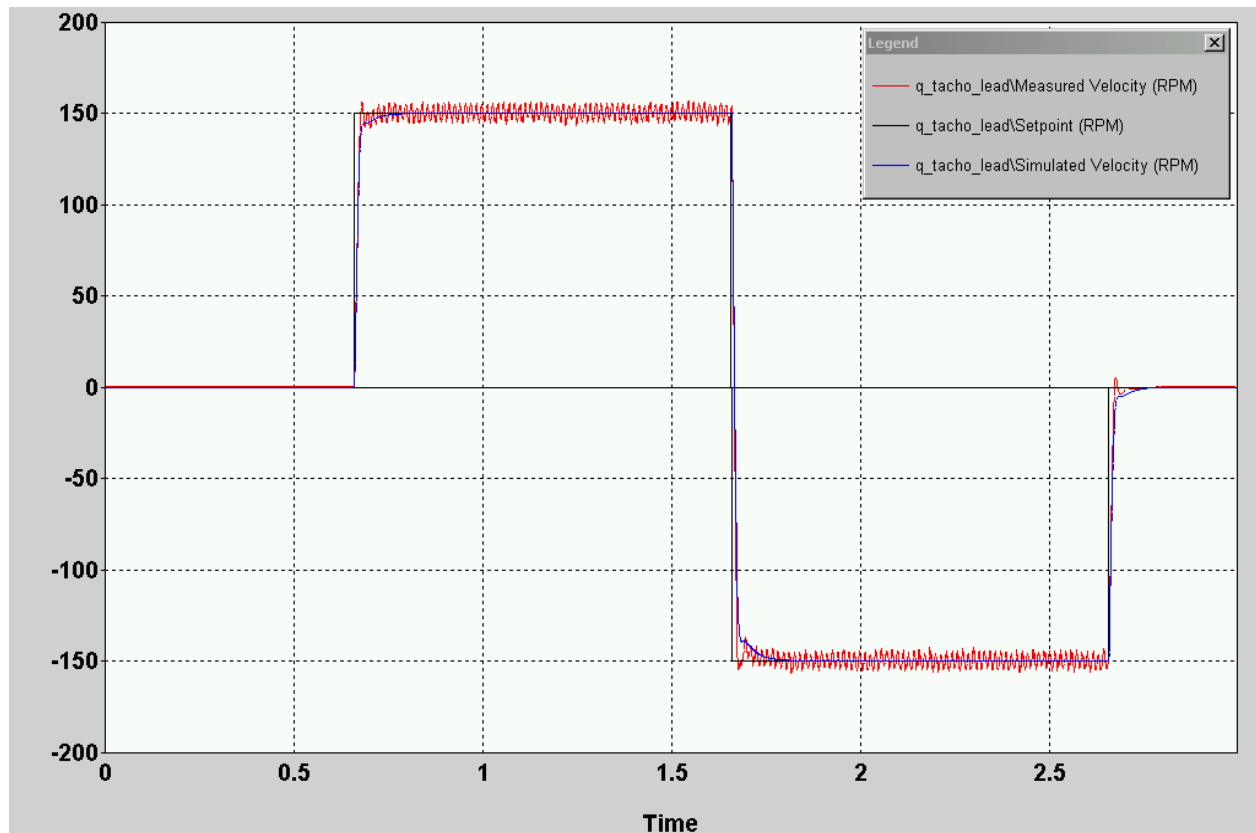

Figure 4 - Step response of the actual plant velocity (red) and the simulated velocity (blue) to an input command (black).
You should now be monitoring all 3 signals on the same plot. If your controller had been designed to the above specifications and procedure, you should be seeing a response similar to **Figure 4** below.
- A step response to your system including the actual and simulated velocities as well as the input command. This should look similar to the **Figure 4** of section 5.